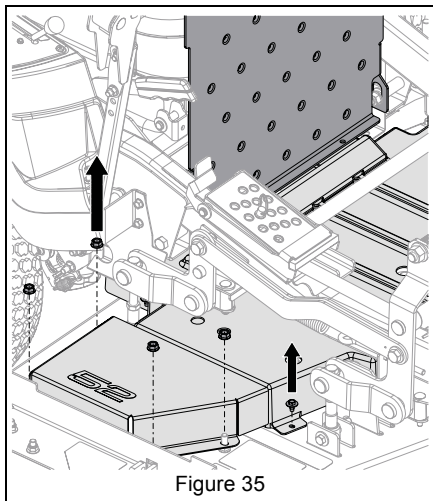

Figure 35
3. Remove hardware securing belt covers to deck and remove belt covers. See Figure 35.